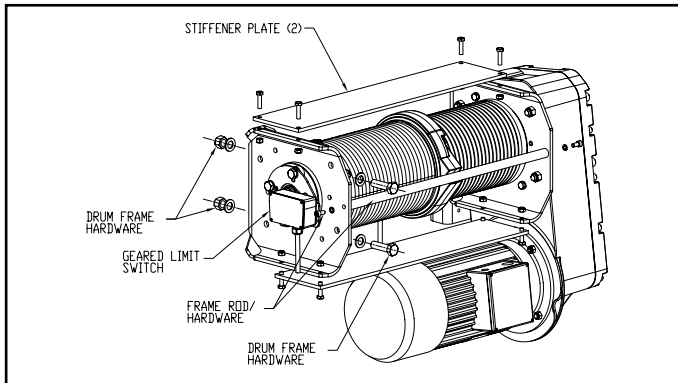

Figure 5-6. Drum Frame & Geared Limit Switch
- Remove the geared limit switch or disconnect the wires so that the electrical cable will not inhibit removal of the drum. (see Figure 5-6).
- Remove the unit from service, place it on the ground and provide adequate means to support the drum before removing the frame rod cap screw(s) and stiffener plate hardware ("B" & "C" Frame only) at the outboard end drum frame (see Figure 5-6).